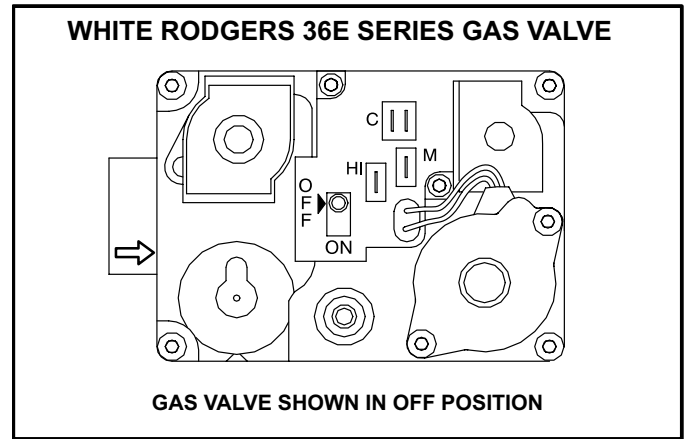

FIGURE 3
Operating the Gas Valve (Figures 3 and 4)
- 8 - *White Rodgers 36E Gas Valve* - Switch gas valve lever to **ON**. See figure 3 for the White Rodgers 36E valve.